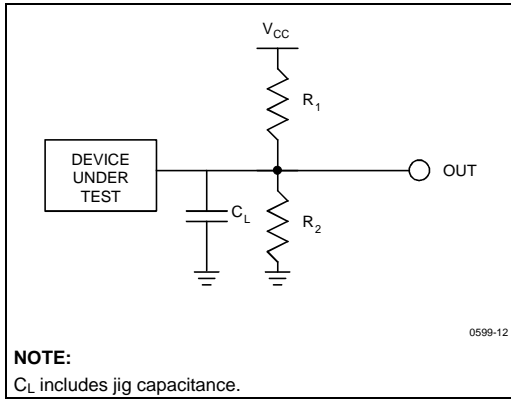

Figure 13. Test Configuration
4. See *Test Configuration* (Figure 13), 5 V High-Speed Test component values.
5. See *Test Configuration* (Figure 13), 5 V Standard Test component values.
- See *Test Configuration* (Figure 13), 5 V High-Speed Test component values.
- See *Test Configuration* (Figure 13), 5 V Standard Test component values.